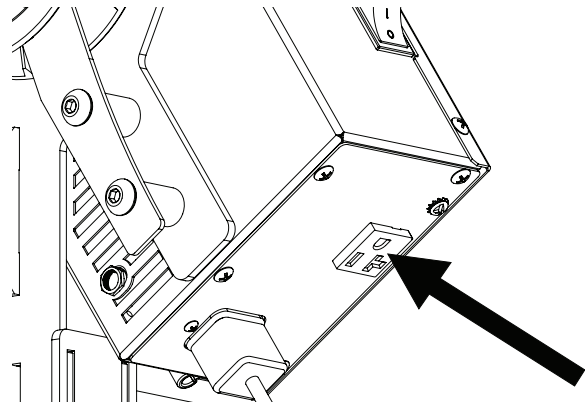

Figure 6
14. Plug the puller's power cord into the Pull Assist's AC outlet and plug the Pull Assist's power cord into the wall. (Fig.6) You can also plug the puller into a second wall outlet if one is available